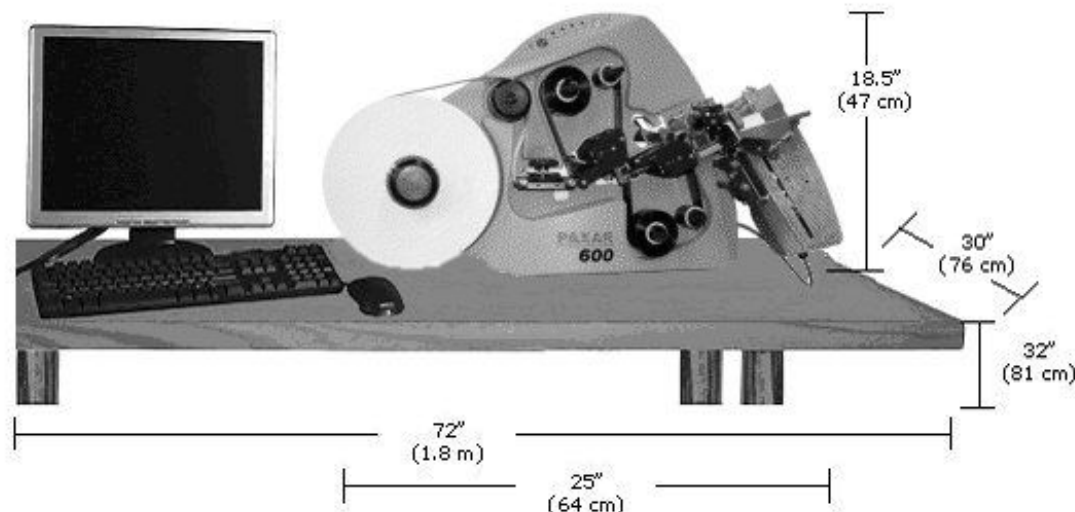

Figure 1. Recommended Workstation Layout
The printer weighs 45 pounds (20.5 Kg) and requires a table of sufficient quality and strength to handle this load. The AVERY DENNISON SNAP 600 printer requires an area with the approximate dimensions of 72" wide x 30" deep x 32" high (1.8 m x 76 cm x 81 cm). The host PC (if used) and any printer options will increase the required area. AVERY DENNISON recommends using an industrial type worktable. Refer to Figure 1 below.
1. Choose an area that maintains optimum flow of your product and allows for the operator's comfort. Consider the physical demands being placed on the operator with respect to height of the table on which the printer will be placed, the amount of space around the printer, and the operator's accessibility to the printer. Refer to Figure 1.
1. Look at the line voltage level shown in the window on the back of the printer (see Figure 1). If the number in the window matches the appropriate voltage for your location, you can proceed with setting up your printer.
- In the U.S.A., call (570) 888-6641.